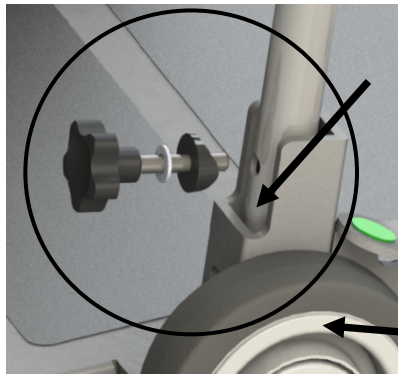

Figure 6
Step 2 - Lock the handles to the base assembly using two M8 Star handles and nylon shoulder washers as shown in (Fig. 6)